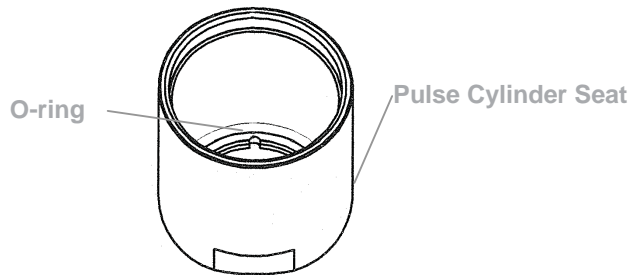
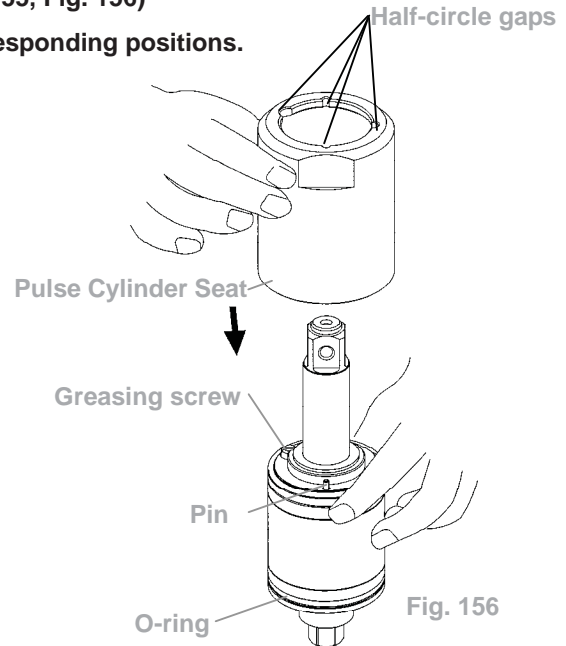

Fig. 155
Fig. 156
- 4.1 Place the O-ring inside the bottom of the pulse cylinder seat, then combine the pulse cylinder seat with the assembled pulse cylinder unit. (Fig. 155, Fig. 156)